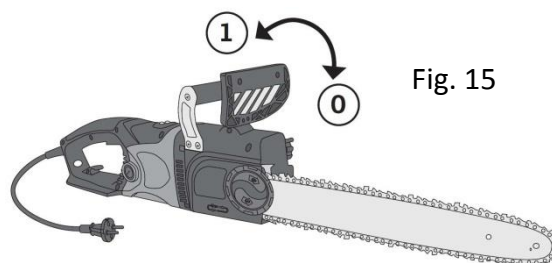

Fig. 15
The chain brake must be reset before the saw can be started again: Switch off the chainsaw (release the power switch), push the kickback guard (5) back until it returns to the upright position (fig. 15).
If the chainsaw does not start, reset the kickback guard/chain brake: Return the kickback guard (5) to the upright position. Refer to *3.7 Kickback guard/chain brake, Resetting the kickback guard/chain brake* (fig. 15). The chainsaw starts slowly (soft start) and reaches maximum speed after a couple of seconds.